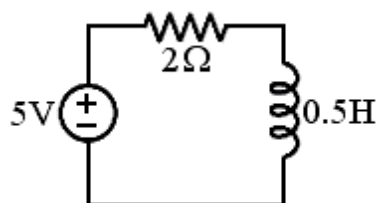

Fig.2
- b) Determine the current  $i(t)$  for  $t \geq 0$ , for the circuit shown in Fig.2. Assume initial conditions are zero. [10+5]